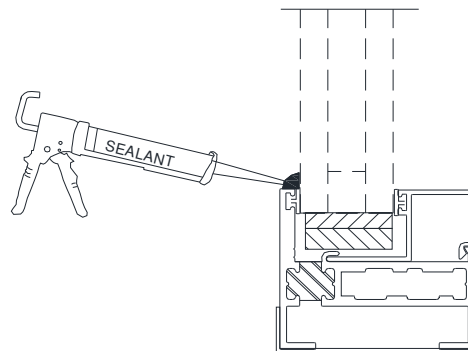

Figure 21:
1. Before glazing, apply a continuous bead of sealant to the inner frame (Figure 21).